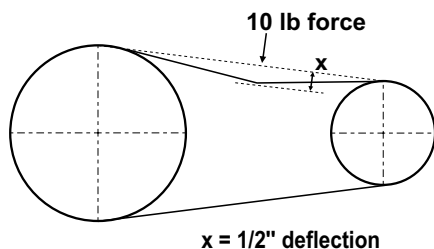

FIGURE 8 - V-BELT DEFLECTION
3. Check belt tightness so that when pressure is applied at the center, there is 1/2" slack. (Figure 8)